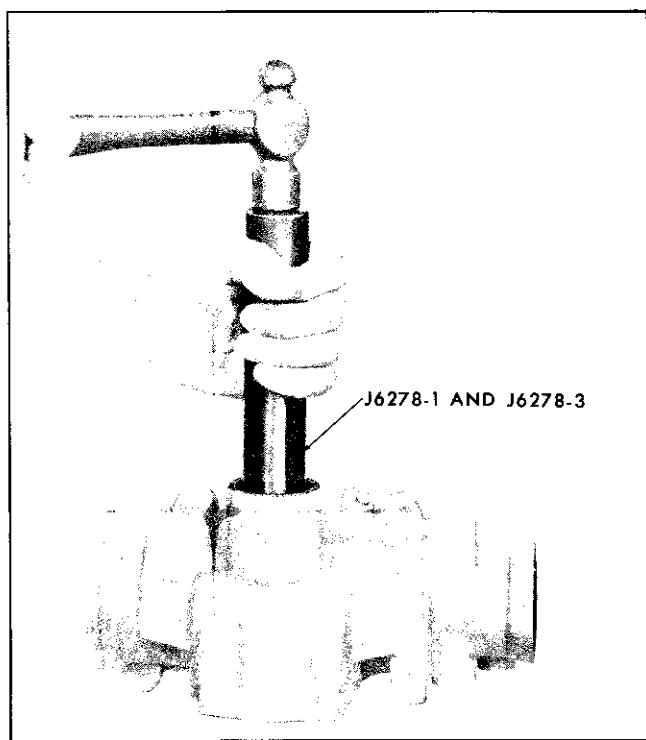

Fig. 9-57 Removing or Installing Pitman Shaft Needle Bearing
6. If pitman shaft needle bearings are to be replaced, remove bearing by driving out of housing, using tool J 6278-1 with adapter J 6278-3 (Fig. 9-57).
1. With stamped end of needle bearing against shoulder of adapter J 6278-3, use remover and replacer J 6278-1 to drive pitman shaft needle bearing into bore from outside of housing until flush-to- $\frac{1}{32}$ " below shoulder. Make sure needle bearings rotate freely (Fig. 9-57).